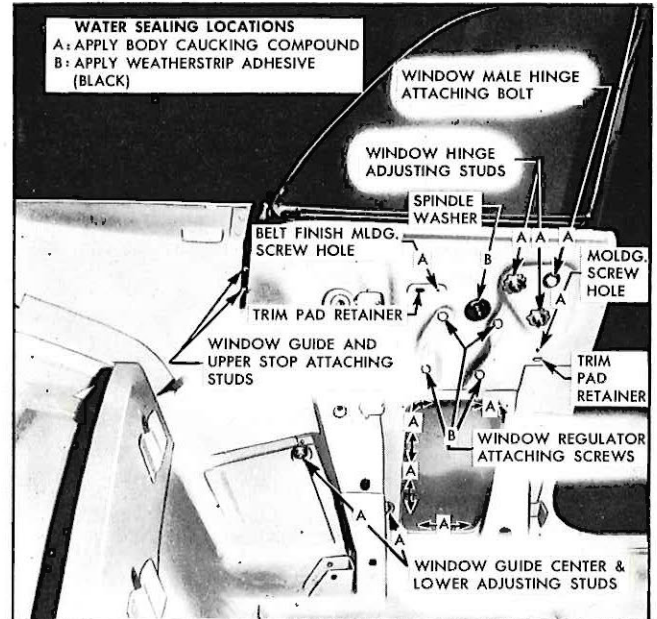

Fig. 2—Convertible Body—Rear Quarter
2. Remove window hinge pivot bolt (fig. 2). Disengage window male hinge from female hinge plate; then raise window to disengage window lower sash channel cam from roller on window regulator lift arm and remove window.
1. To adjust the limit of the rear quarter window up-travel, loosen the window guide upper attaching stud nuts (fig. 2); then adjust upper stop to desired position and tighten stud nuts.
- a. "Up or Down" or "Fore or Aft" Adjustment—Loosen window male hinge attaching bolt and both adjusting stud nuts (fig. 2). Adjust window to desired position and tighten pivot bolt and stud nuts.
- b. "In or Out" Adjustment of Top of Window—Loosen lower adjusting stud nut and slightly loosen rear stud nut (fig. 2). Adjust lower stud "in or out" as required and tighten both stud nuts.
- c. "In or Out" Adjustment of Rear of Window—Loosen pivot hinge rear adjusting stud nut and slightly loosen lower adjusting stud nut (fig. 2). Loosen window guide attaching and adjusting stud nuts. Adjust hinge rear adjusting stud "in or out" as required and tighten both hinge adjusting stud nuts. Adjust window guide for proper alignment with window and tighten guide attaching and adjusting stud nuts.
2. Remove regulator attaching screws (fig. 2). Disengage regulator lift arm roller from window lower sash channel and remove regulator assembly through access hole. To install regulator, reverse removal.
2. Remove window guide upper attaching stud nuts, and center and lower adjusting stud nuts (fig. 2).
Whenever the seals in the rear quarter area have been disturbed, the location must be resealed before the rear quarter trim is installed. Rear quarter inner panel openings and hardware attaching locations that must be sealed to prevent water leakage and possible trim damage are shown in Figure 2.